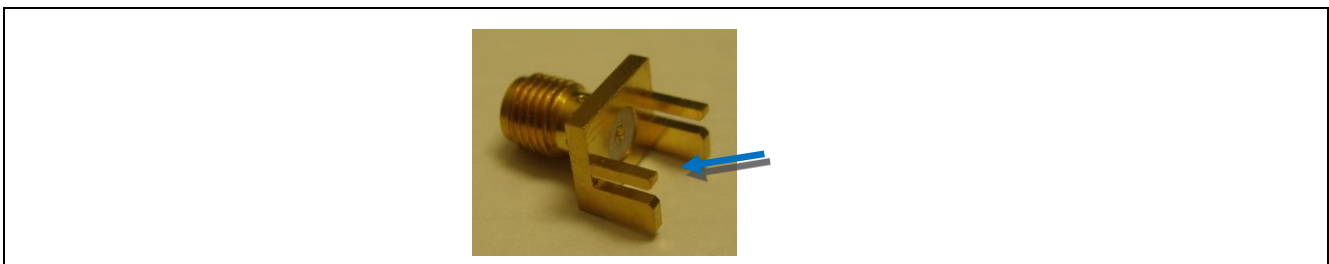

Figure 44 SMA connector for deembedding procedure
Below is a picture of the evaluation board used for the measurements (Figure 44). The board is designed in the way that all connecting 50 Ohm lines have the same length.
- Use an SMA connector whose inner conductor has been removed to tune out one of the SMA to PCB transitions using the port extension on one port (Figure 44). Turn port extensions on.